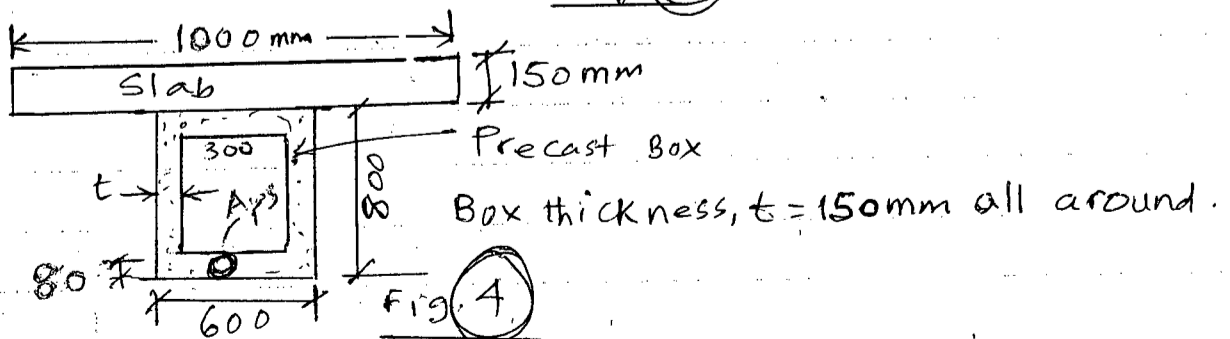

Fig. 4
(b) The midsection of a composite beam is shown in Fig. 4. It is post-tensioned with a initial prestress of 2900 kN which reduces by 14% to reach the effective prestress. After erection of the precast box section, the 150 mm thick slab is cast in place. Compute the stresses in the precast and composite section (as appropriate) at various stages of loading. Also, find the span, L of the beam. Given Moments: (15)